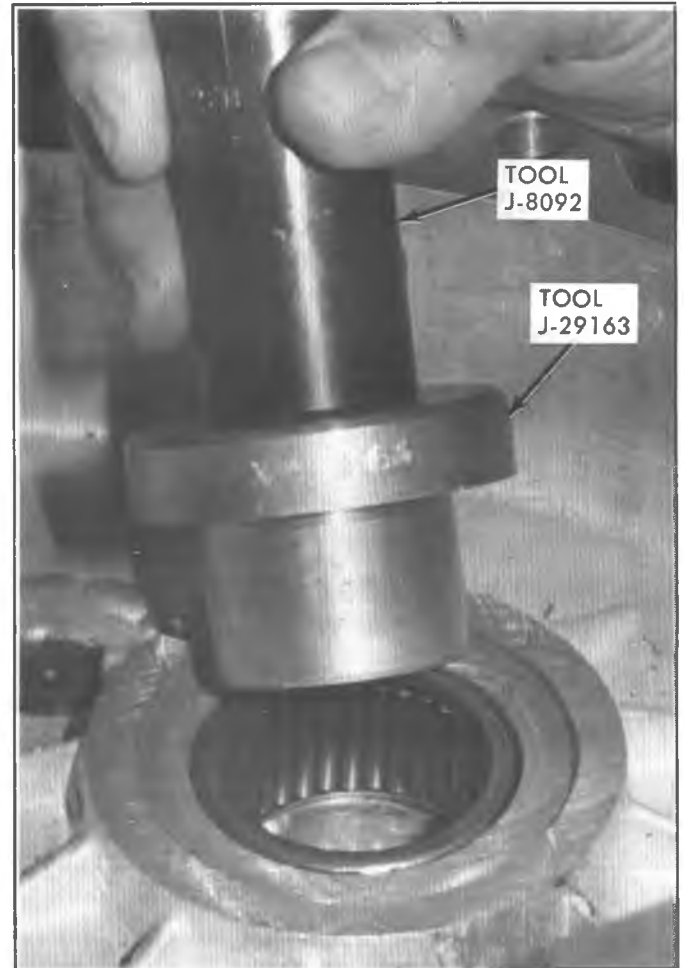

Fig. 7E-22-Front Output Shaft Rear Bearing Installation
7. Install planetary assembly over input gear (Fig. 7E-27). Be sure planetary is fully seated and meshed with gear.
8. Install planetary thrust washer on planetary hub (Fig. 7E-14).
10. Engage range fork in annulus gear and install annulus gear over planetary assembly (Fig. 7E-28). Be sure that the range fork lug is fully inserted in range sector slot (Fig. 7E-13).
12. Align shaft bores in case and range fork, and install shift rail (Fig. 7E-28).
13. Install mainshaft (Fig. 7E-12). Be sure mainshaft thrust bearing is properly seated in input gear before installing mainshaft.